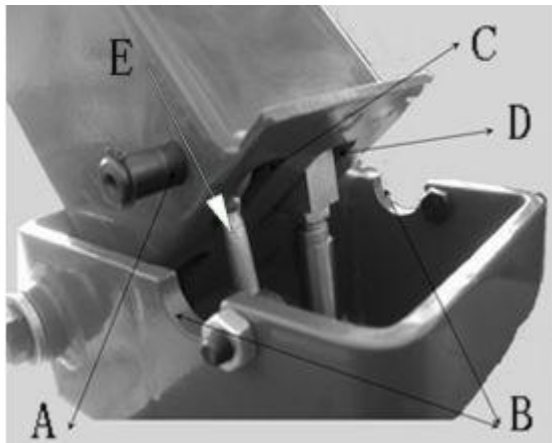

Fig 4-6
4.2.9 Position the $\Phi 16$ hole under the column (Fig4-6 A), Detach the retaining washer at one end of push-out shaft (Fig4-1 B), Insert through $\Phi 16$ hole and into the corresponding holes of the retention rod (Fig4-6E) and push-out cylinder piston rod (Fig4-6 D) . And out from the hole at the other end and mount the elastic washer.